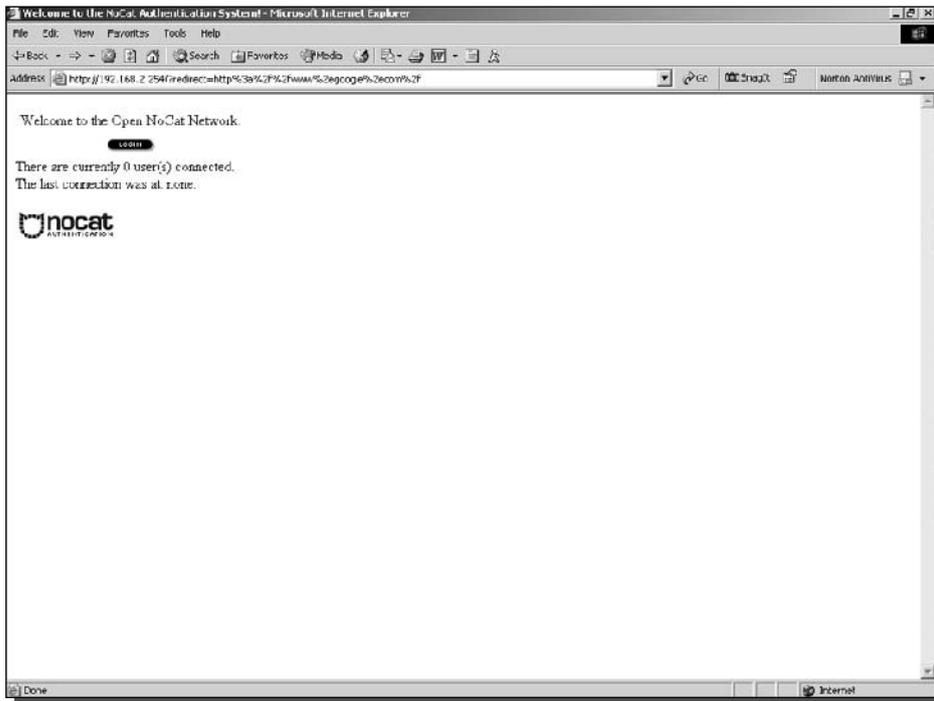

FIGURE 10-7: The NoCat splash screen the first time the gateway is accessed.
3. On the client, type `www.google.com` in the browser address bar, or attempt to refresh the Google screen, if it is already open. You get the NoCat splash screen, as shown in Figure 10-7. The first time the gateway is accessed, a “none” message will appear. It will be replaced by a date and time after the first login.
4. On the client, type `www.google.com` in the browser address bar, or attempt to refresh the Google screen, if it is already open. You get the NoCat splash screen, as shown in Figure 10-7 or 10-8 (depending on whether this is the first login or a subsequent login). So far, everything is going the same as in Test #6 and Test #7.